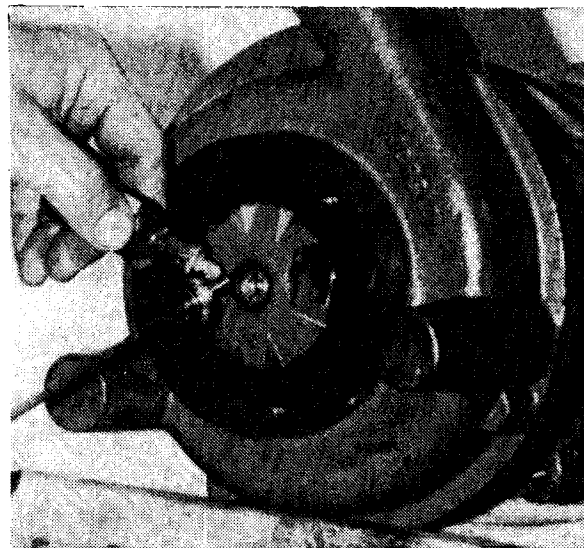

FIG. 8
10. Replace holding screw and washer, use small amount of Loctite #271 screw. See Figure 8.